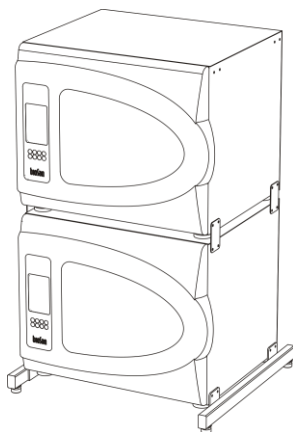

Figure 5. Stacking three units, middle level
5.5.2. Middle unit (figure 5):